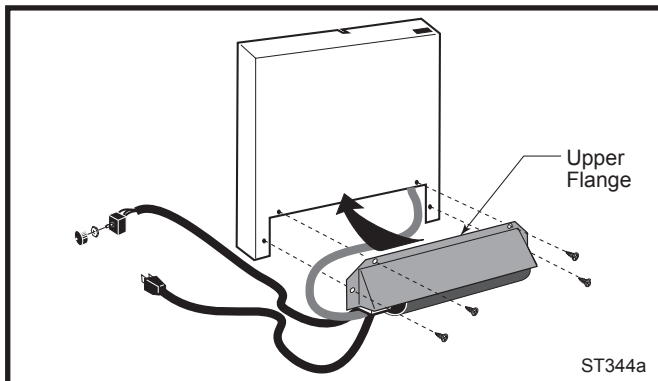

Fig. 4 Place upper flange behind lower edge of shroud.
1. Remove shroud assembly by loosening two (2) hex head bolts on lower inside of shroud. Lift shroud assembly up and away from stove.
2. Attach the fan to the rear shroud by engaging the upper flange of the fan skirt under the lower edge of the shroud and secure the skirt with the four screws and one star washer provided. (Figs. 4, 5)